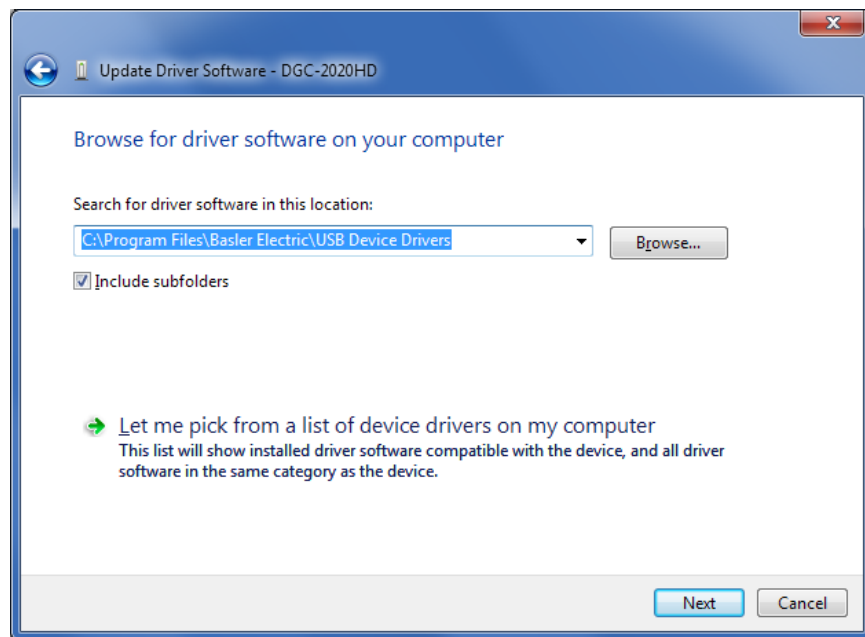

Figure 232. Update Driver Software - DGC-2020HD
- Step 5. Click Browse and navigate to C:\Program Files\Basler Electric\USB Device Drivers\USBIO. Click Next. See Figure 232.